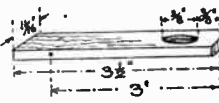

Fig. 4—The spring board
The foregoing parts then form the frame as it were for containing the two moving levers (D) and (E). In order to throw the balls in the right direction towards the target, the spring board (E) will be pivoted a little above its lower end, and a diagram of this piece is included in Fig. 4 with all dimensions given. A hole is cut at the top end of the piece in which the ball will rest. This hole is bevelled round afterwards and glasspapered smooth. The lever (E) is thrown upwards by the lever (D) coming in contact with it just above its pivot. The movement can be seen from the sectional view Fig. 5. When the lever (D) is depressed with the forefinger, this lever being pivoted, its opposite end is raised and makes contact with lever (E). The force of the throw and, of course, the length of the throw, too, is regulated by the touch of the finger, and it is this power of touch which, through practice, enables the player to throw the balls skillfully into their holes. Some care must be taken in boring the holes in the side edges of the levers (D) and (E) to get them all exactly opposite and squarely run in. The holes in the sides of the frame must be large enough for the pivot screws to